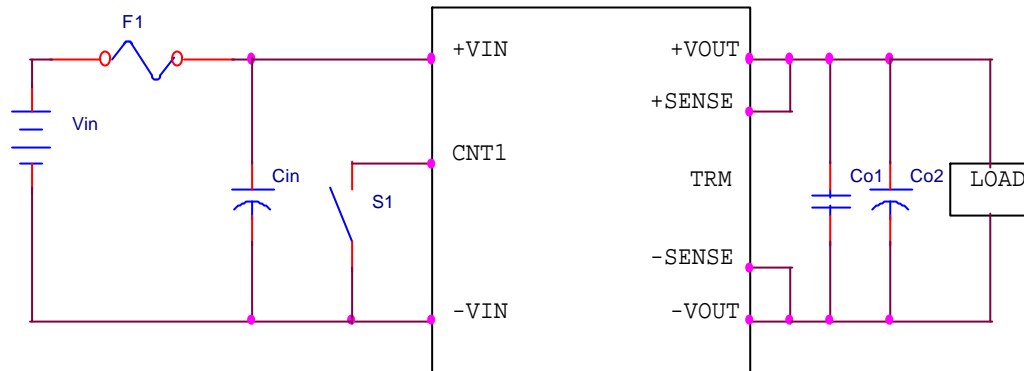

Figure 3. Setup for Parametric Test.
12. Refer to Equation (1) and (2) and Figures 3 and 4 for the Output Trim Adjust configuration.